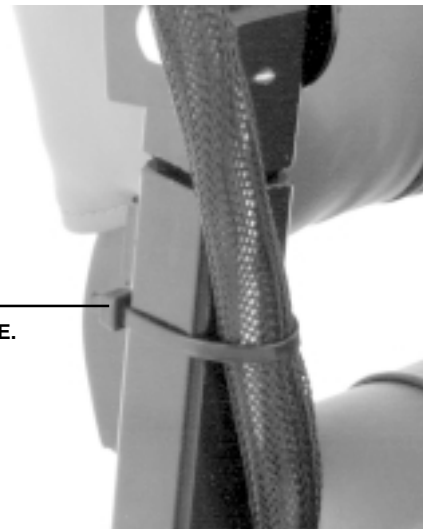

Figure 18. Controller Installation
2. Cut the tie-wrap that attaches the controller cable to the armrest. See figure 18.
8. Connect the controller cable to the armrest with a new tie-wrap. See figure 18.